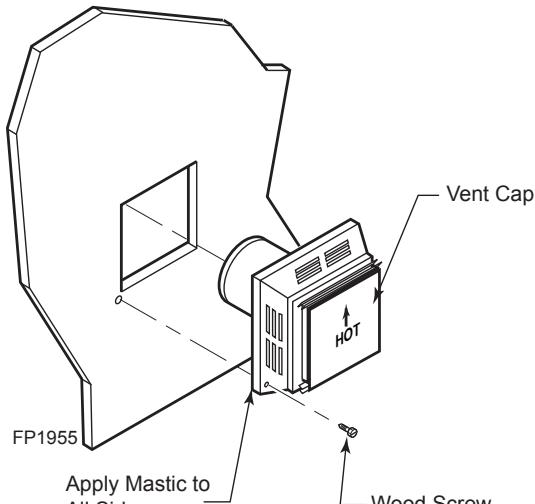

Figure 17 -
- Apply a bead of non-hardening mastic around the outside edge of vent cap. Position the vent cap in the center of hole on the exterior wall with the word "UP" on the vent cap facing up. Insure proper clearance of 1" to combustibles is maintained. Attach the vent cap with four wood screws supplied. *Figure 17*
- Establish vent hole through the wall. Page 16, *Figure 17*.